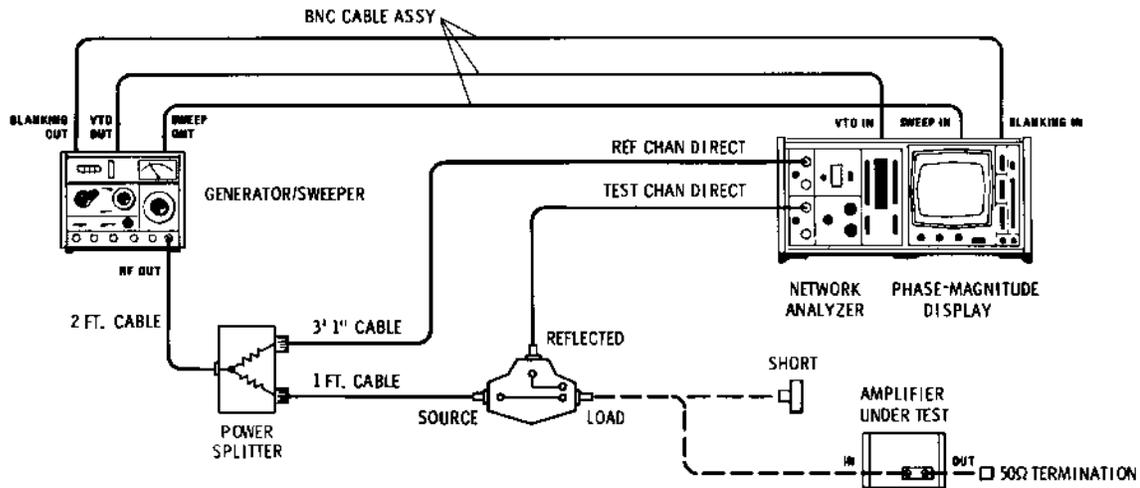

Figure 5
- 1 Connect the equipment as shown in Figure 5. Set the generator/sweeper for a  $-10$  dBm signal, sweeping from 1 to 110 MHz.